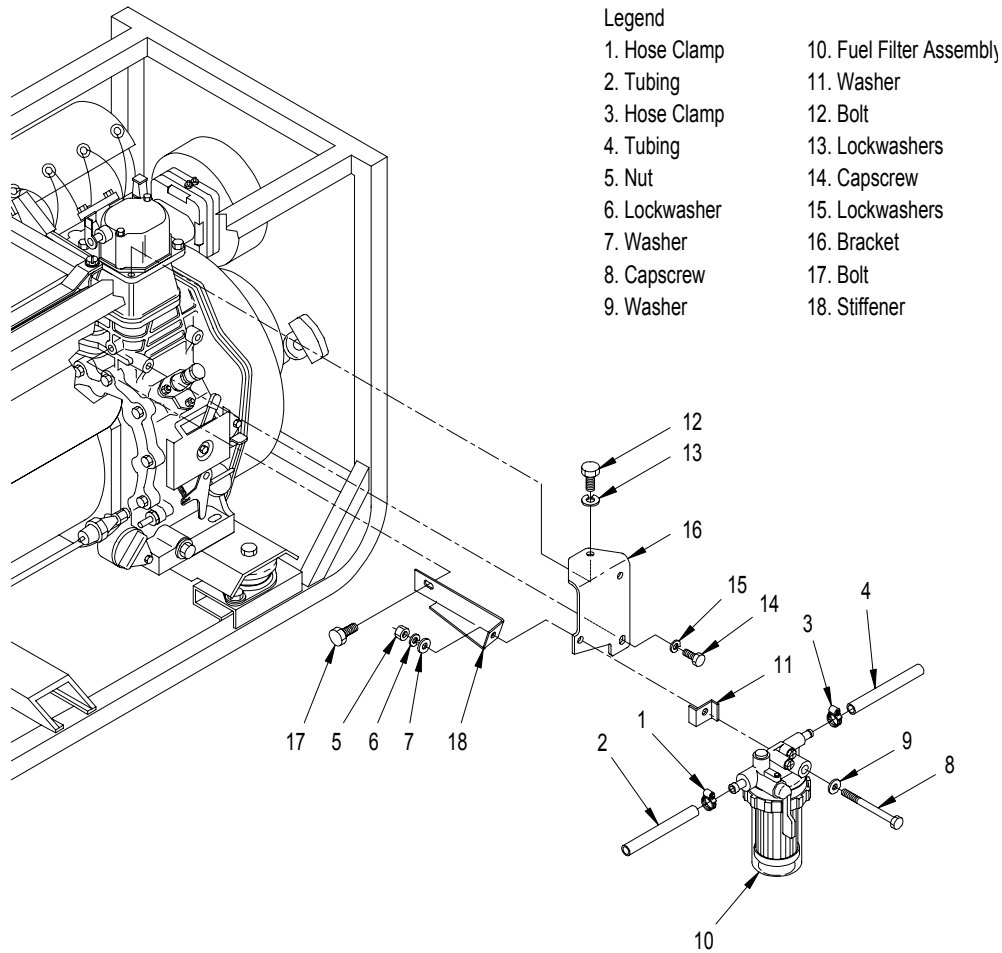

Figure 4-13. Fuel Filter Assembly
- (3) Loosen hose clamps (1 and 3, Figure 4-13) and disconnect tank-to-filter and filter-to-pump fuel line tubing (2 and 4) from fuel filter assembly.
- (4) Remove nut (5), lockwasher (6), washer (7), capscrew (8), and washer (9) securing fuel filter assembly (10) to bracket (16).
- (5) Remove fuel filter assembly (10) with washer (11) using care not to spill diesel fuel trapped in filter bowl.
- (6) If necessary, remove bolts and capscrew (12, 14, and 17) and lockwashers (13 and 15) securing bracket (16) and stiffener (18) to diesel engine.
- (1) Check fuel filter assembly (10, Figure 4-13) for nicks, cracks, or leaks. Replace if damaged.
- (2) Inspect bracket (16) and stiffener (18) for cracks and deformation.
- (1) If removed, install bracket (16, Figure 4-13) and stiffener (18) to diesel engine with bolts and capscrew (12, 14, and 17) and lockwashers (13 and 15).
- (2) Install fuel filter assembly (10) on bracket (16) and secure with capscrew (8), washer (9), washer (11), washer (7), lockwasher (6), and nut (5).
- (3) Connect tank-to-filter and filter-to-pump fuel line tubing (2 and 4) to fuel filter assembly (10). Tighten hose clamps (1 and 3).
- (4) Fill fuel tank with diesel fuel (DL-1, DL-2, or JP-8).
- (5) Prime and bleed the fuel system, refer to paragraph 2.7.c.